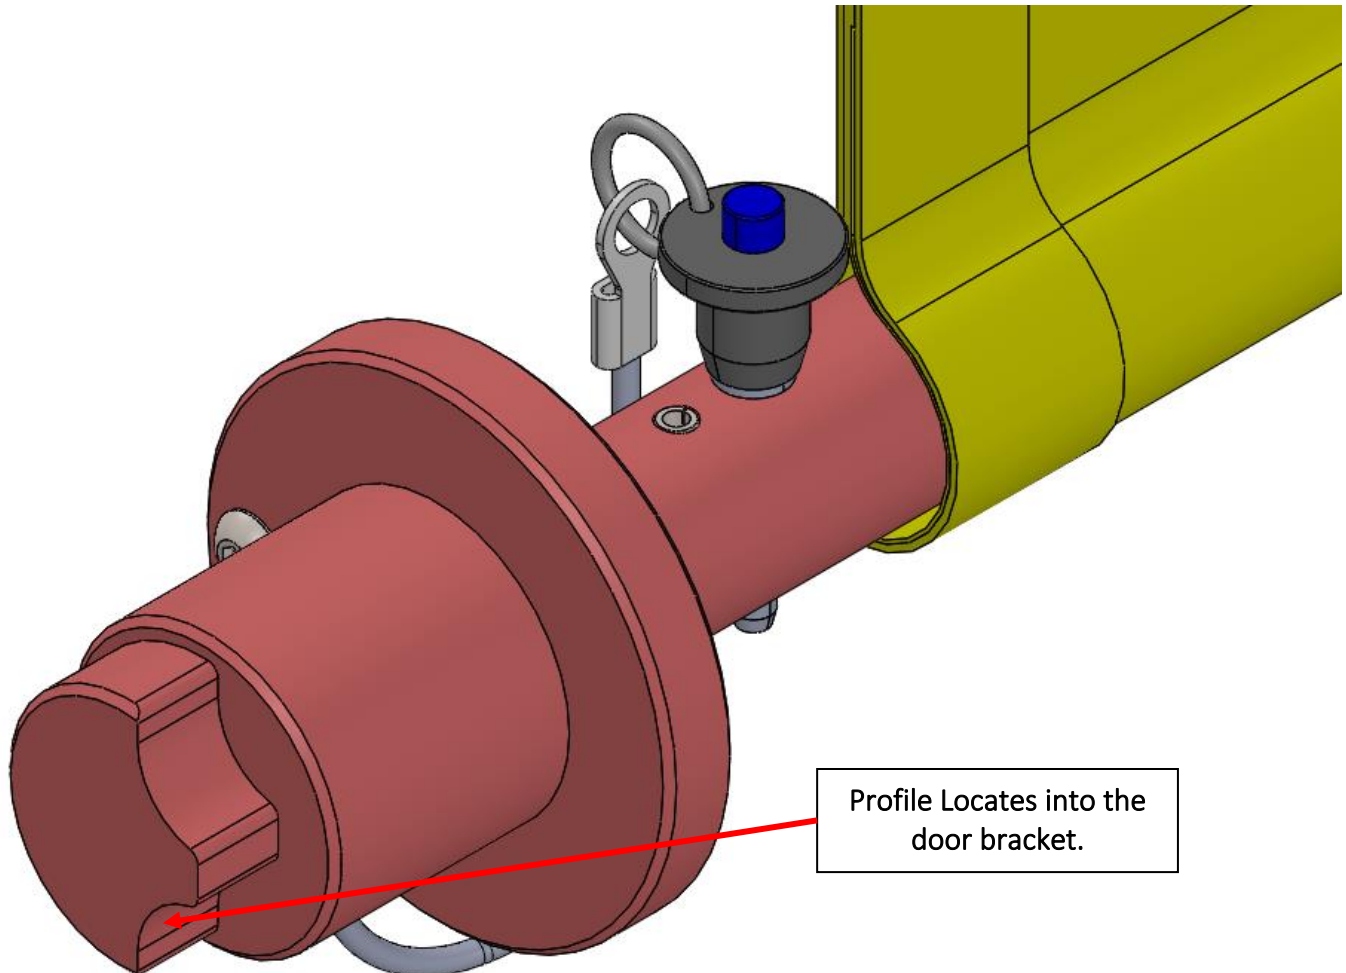

Figure 17 Bottom Sprung-Loaded Locator.
- 4.1.20 Locate the bottom Spring-Loaded bottom Locator into the door bracket on the other side of the door frame, shown in figure 17.